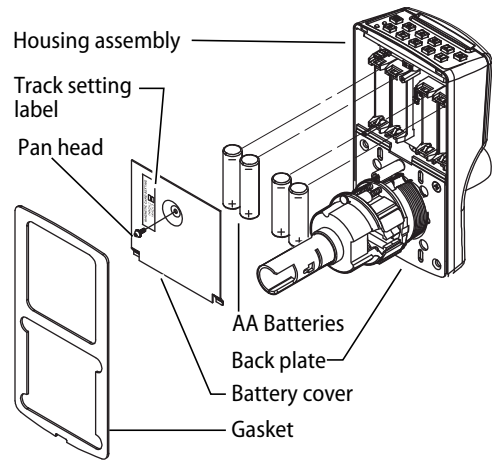

Figure 10 Installing batteries
- 1 Remove the gasket from the rear of the housing assembly as shown in Figure 10.
- 5 Replace the battery cover. See Figure 10. Make sure that the tabs on the lower edge of the battery cover are hooked over the edge of the back plate and secure the cover with the screw.
- 6 Replace the gasket. See Figure 10. Make sure that it is inside the edge of the housing.
- 7 A label on the housing assembly battery cover indicates the magnetic card track (track 2 or track 3) that the system is set to read. See Figure 10.